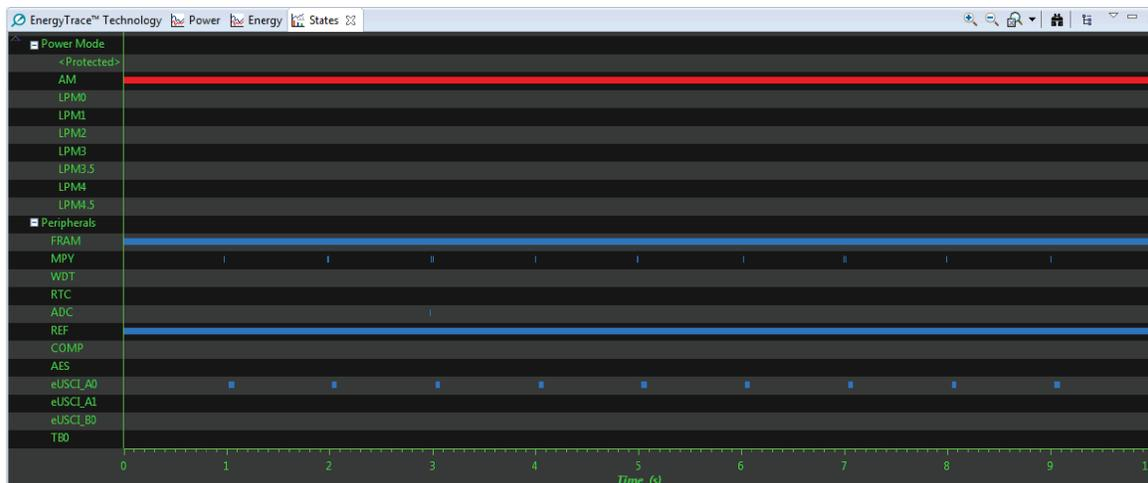

Figure 15. Inefficient.c States
- Click the *States* tab (see Figure 15).